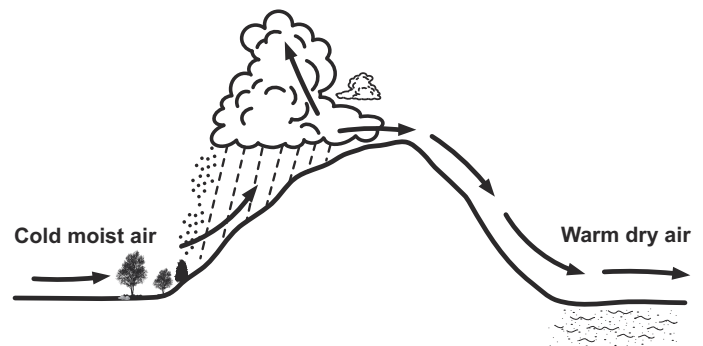

Figure 1-3. Orographic Uplift.
- *Orographic uplift.* This uplift happens when an air mass is pushed up and over a mass of higher ground, such as a mountain (see fig. 1-3). Due to the adiabatic lapse rate, the air is cooled with altitude and, if it reaches its saturation point, will produce precipitation.